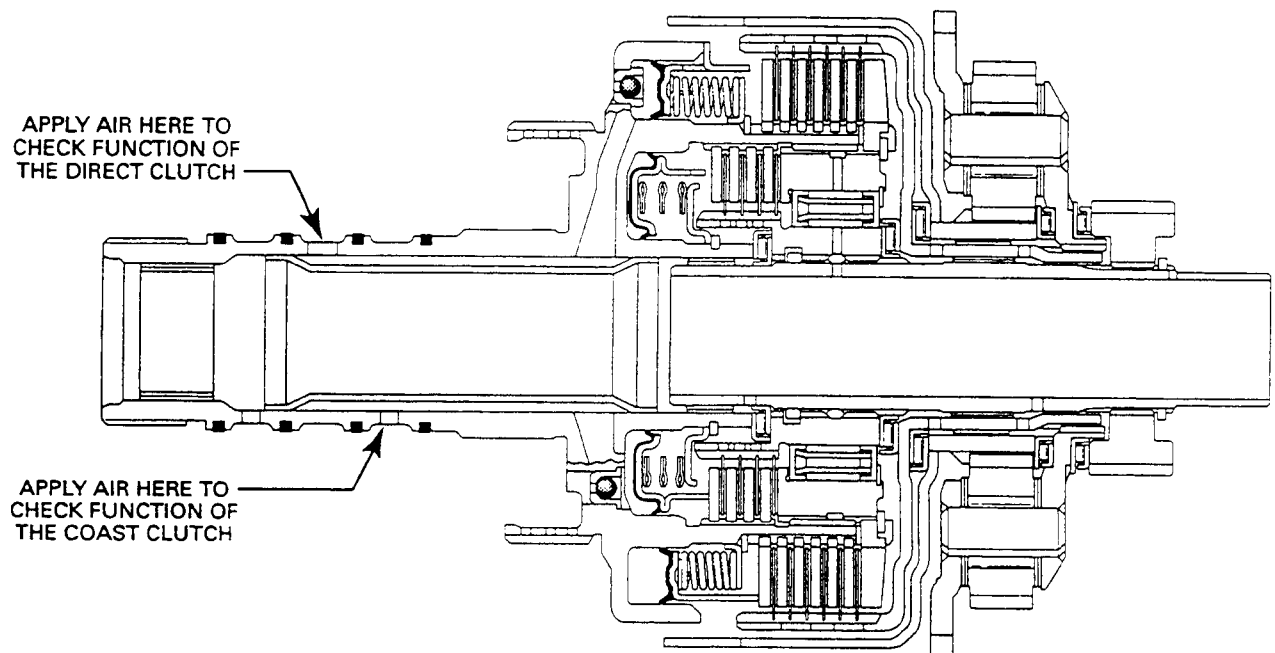

Figure 141
47. Air check the direct clutch and coast clutch to verify proper operation of the seals and clutch assemblies as shown in Figure 141.